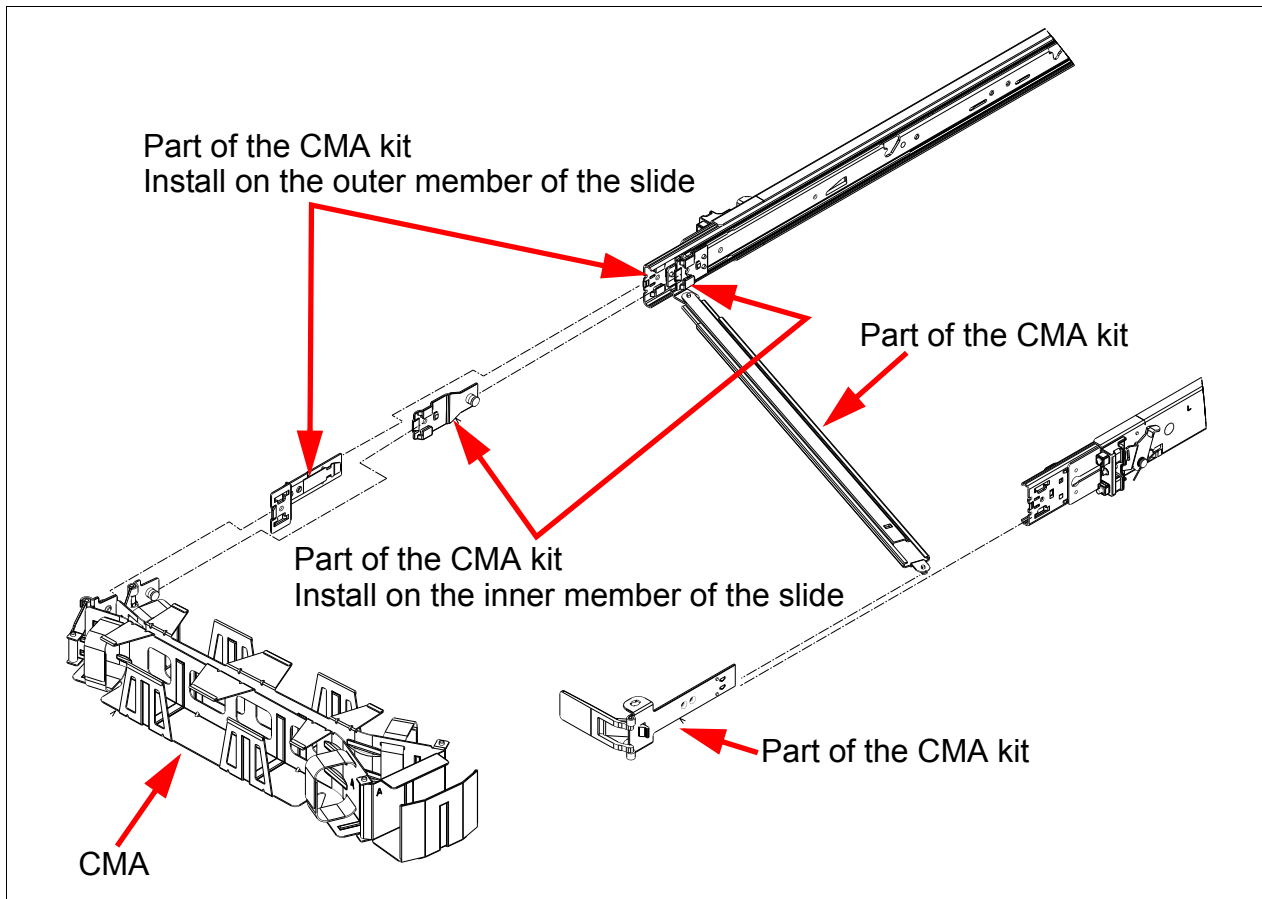

Figure 2-5 Cable management arm installation (rack not shown)
6. Install the cable management arm. See Figure 2-5.